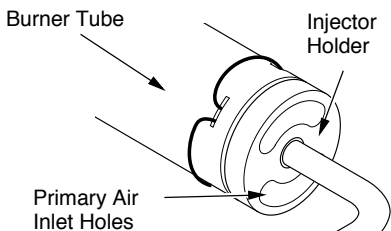

Figure 41 - Injector Holder On Outlet Burner Tube
2. Inspect burner, pilot, and primary air inlet holes on injector holder for dust and dirt (see Figure 41, page 25).